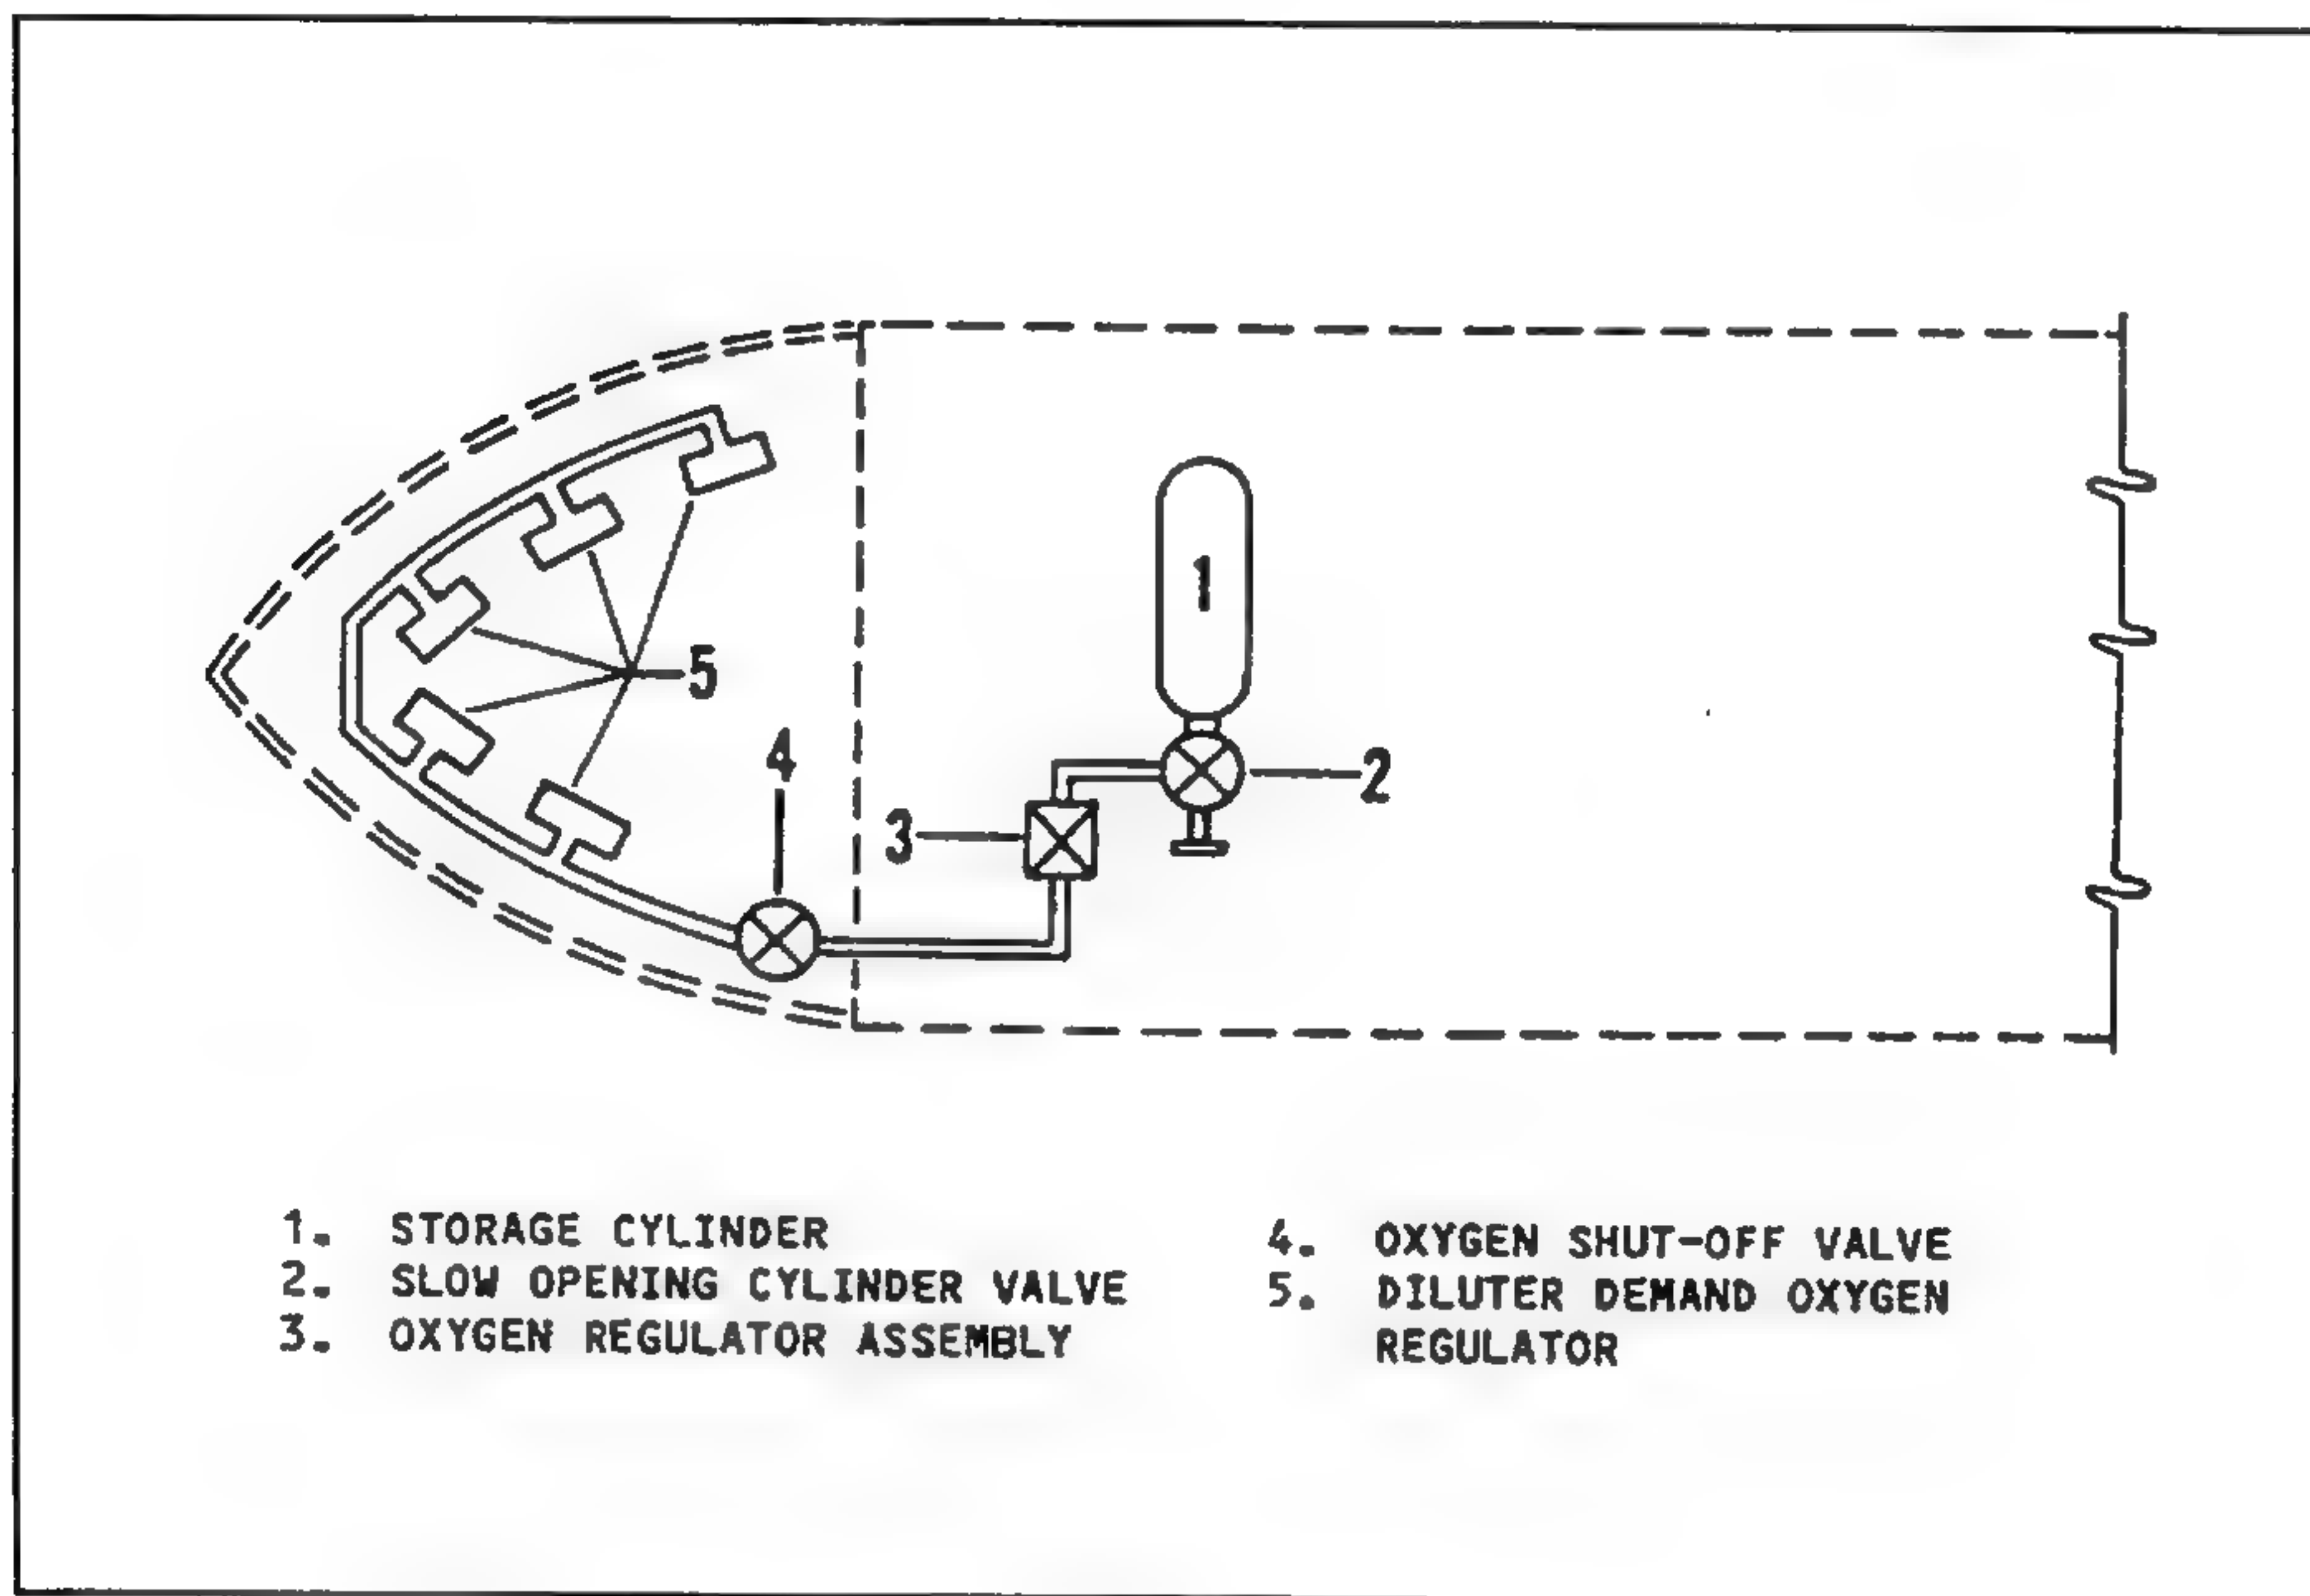

Figure 2 - Typical Installation
A typical installation of the 27660 Series Oxygen Regulator in a pressurized control cabin is shown in Figure 2. Oxygen, which is stored at a high pressure in Cylinder (1), flows through Cylinder Valve (2) to Oxygen Regulator (3). Regulator (3) reduces the high storage pressure to a usable breathing pressure. The low pressure oxygen then flows, via Oxygen Shut-off Valve (4), to Diluter Demand Regulators (5) to the crew.